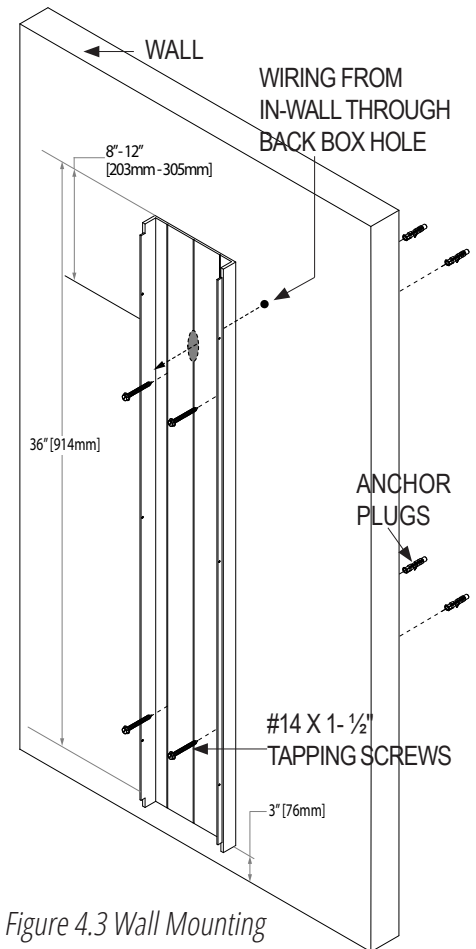

Figure 4.3 Wall Mounting
12. Secure the Back Box to the wall with the #14 x 1-1/2" tapping screws provided. (Figure 4.3 and 4.4)
12. Secure the Back Box to the Frame with the 1/4"-20 machine screws. (Figure 4.3 and 4.4)